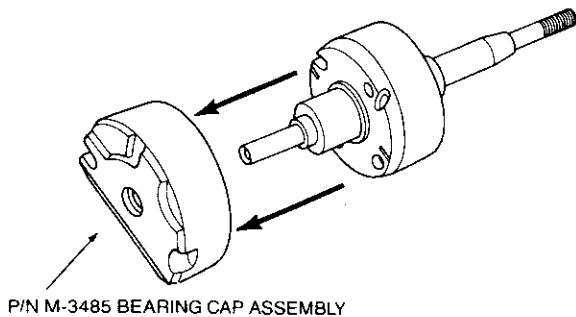

**Figure 6.9**
A. Place rotor on T-152 spacer. (See Figure 6.9).